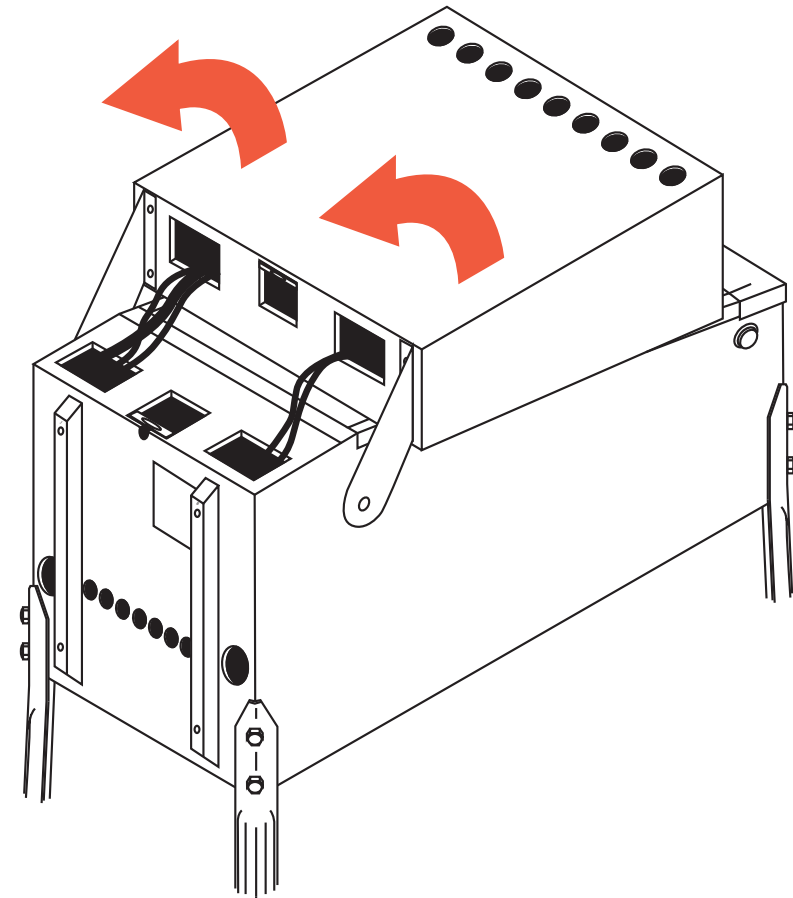

Figure A7. Raising the backbox to its upright position.
7) Using wire cutters, cut the nylon strap holding the backbox down (protect your eyes!). Remove the remainder of the packing material from the game and raise the backbox to its upright position (see figure A7). Ensure that the cables and wires in the neck of the game do not get pinched at any time during this process.